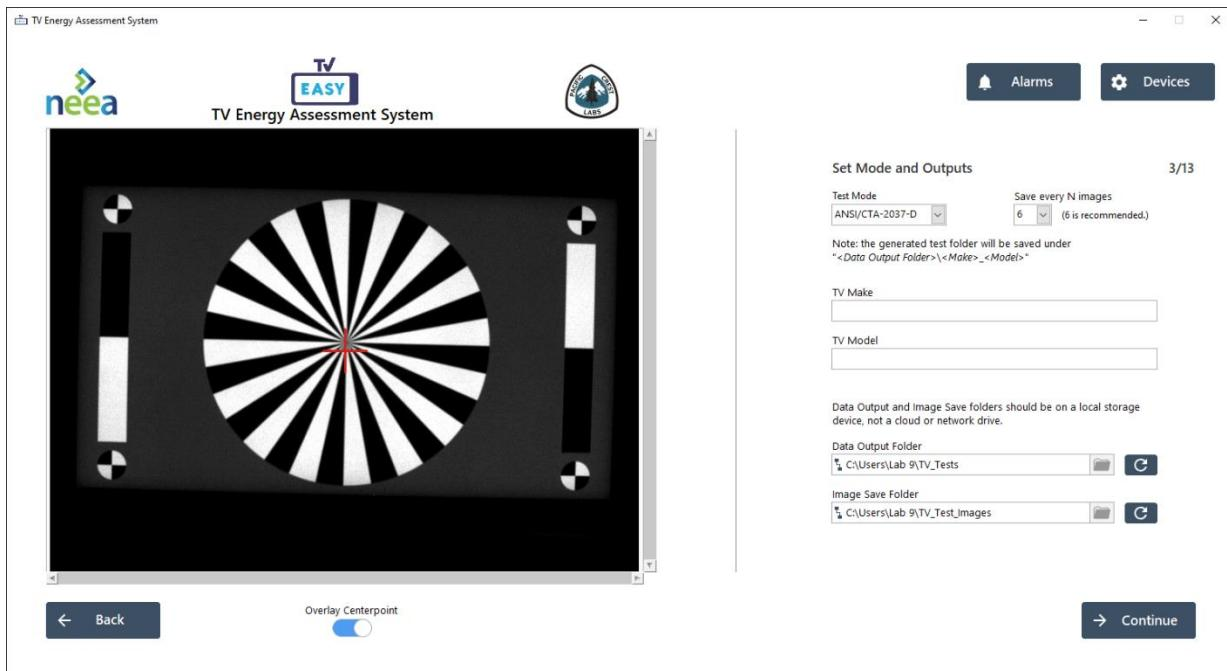

Figure 24: Basic test information and output folders
Enter the information requested in Figure 24.
4. In laptops ordered from PCL, the output folders (Figure 24) are set by PCL. They are located on the desktop.